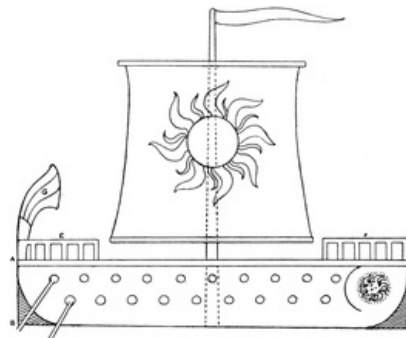

FIG. 172
**A Ph[oe]nician Warship**, 480 B.C. (Fig. 172). This is made, as the viking ship, from oblong A B C D; pieces of paper, E and F, with railings drawn on them, are gummed on each end; a stern ornament, G, is cut out of paper and gummed at one end. (When a vessel was captured in olden days this was kept as a trophy.)